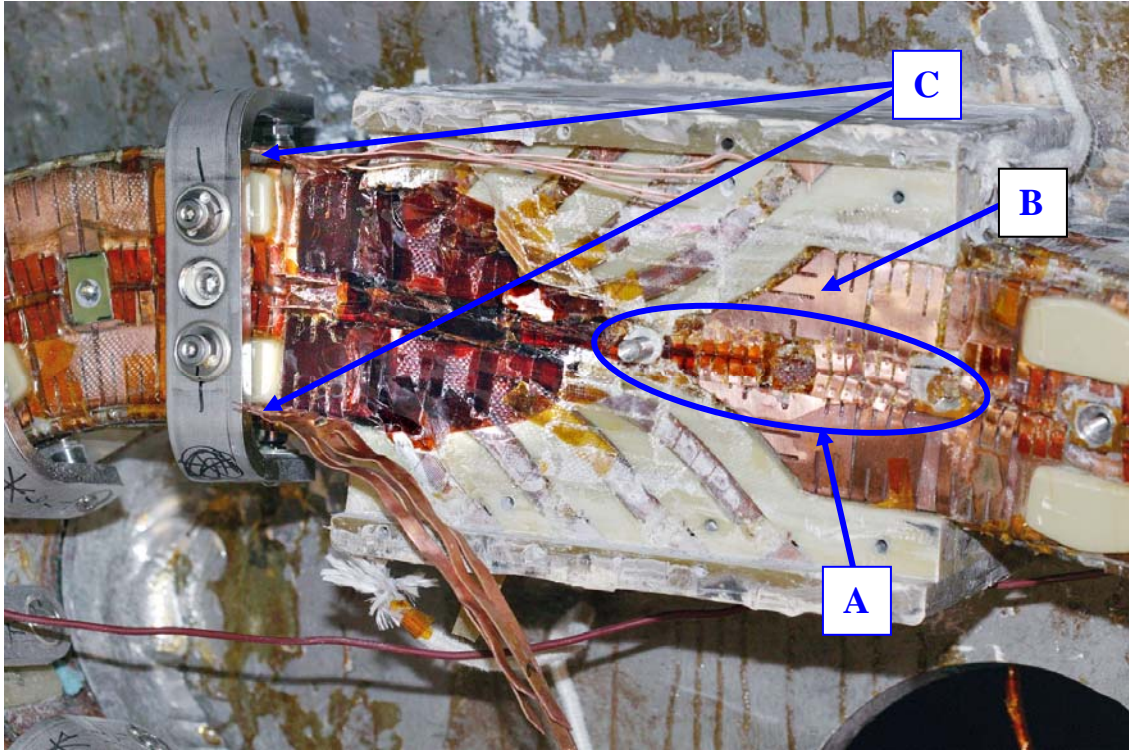

Figure 1- Lead Repair Area
5.4.2 **MASK** off the surrounding area around the chill plate fingers with duct tape and plastic. See figure 1.